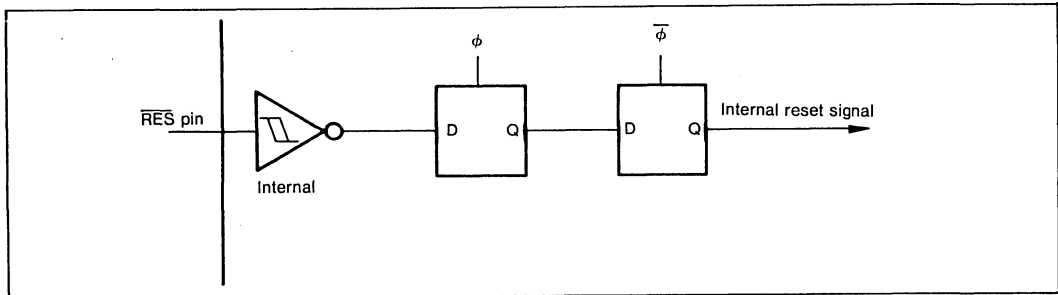

Figure III-16. Reset Circuit
**Answer:** Yes (figure III-16).
**Answer:** No, because  $\overline{\text{RES}}$  is provided with a Schmitt trigger circuit (figure III-16).